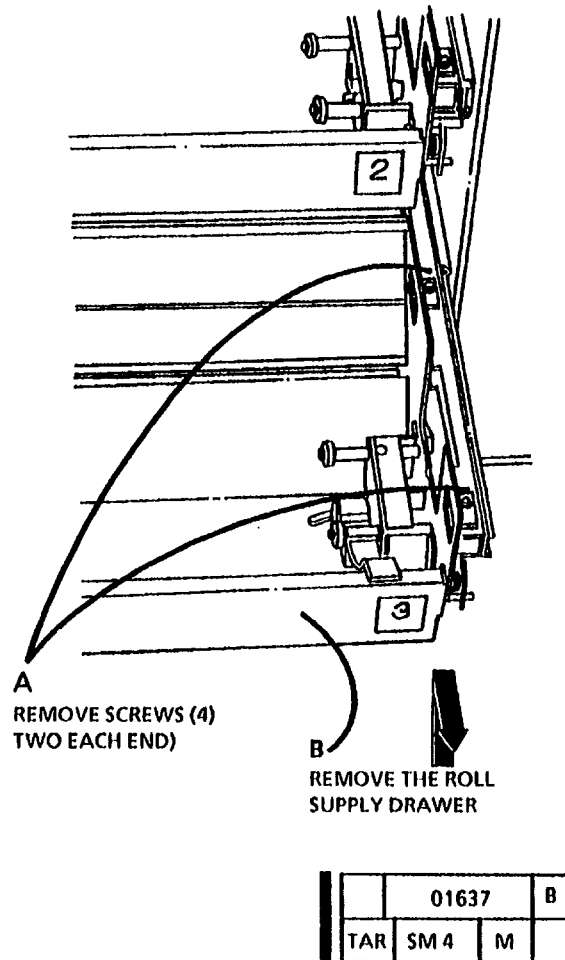

Figure 1. Remove the Roll Supply Drawer
**1** All three Roll Supply Drawer Assemblies are removed the same way. Roll supply Drawer Assembly three (3) is shown.
4. (Figure 1): Remove the Roll Supply Drawer.